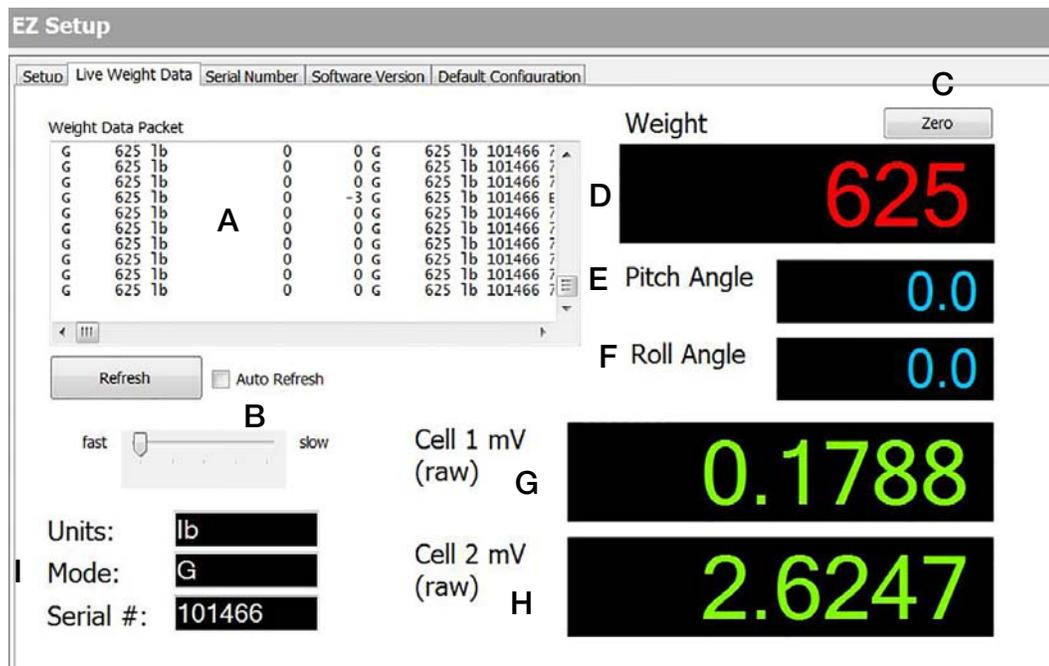

Figure 4-19. Revolution Live Weight Data Screen.
1. Select the *Live Weight Data* tab (Figure 4-19).
Note *Weight data packet screen shows output format of CLS. Other displays include weight, pitch angle, roll angle, cell 1 and 2mV (Figure 4-19). This is the information that will be sent to the customer-supplied handheld device when attached through Bluetooth.*